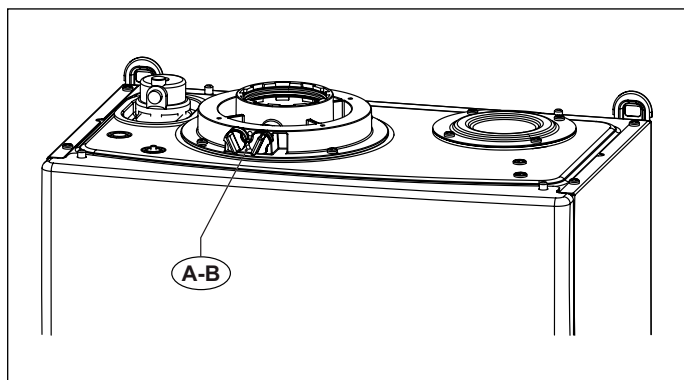
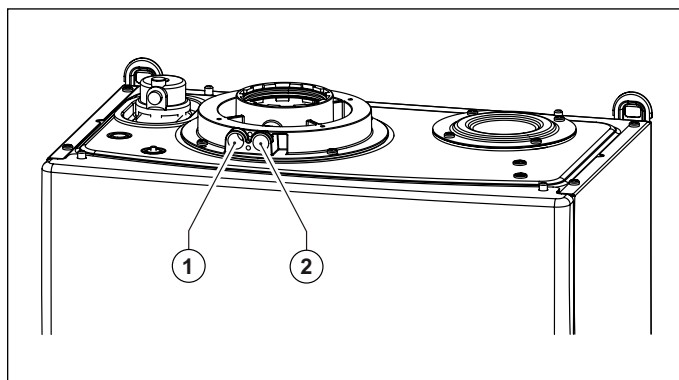

Fig. 19 Plugs position
Fig. 20 Hole position
The boiler is equipped with a tower allowing for air intake/flue gas venting pipe connection (see Fig. 19 Plugs position and Fig. 20 Hole position).
The tower is designed with two pre-arranged openings directly accessing air and flue gas ducts (see Fig. 20 Hole position).
Remove caps **A** and **B** from the pre-arranged openings on the tower, before starting combustion checking procedure (see Fig. 19 Plugs position).
- assess combustion air from opening **1** (see Fig. 20 Hole position).
- assess flue gas temperature and CO₂ from opening **2** (see Fig. 20 Hole position).